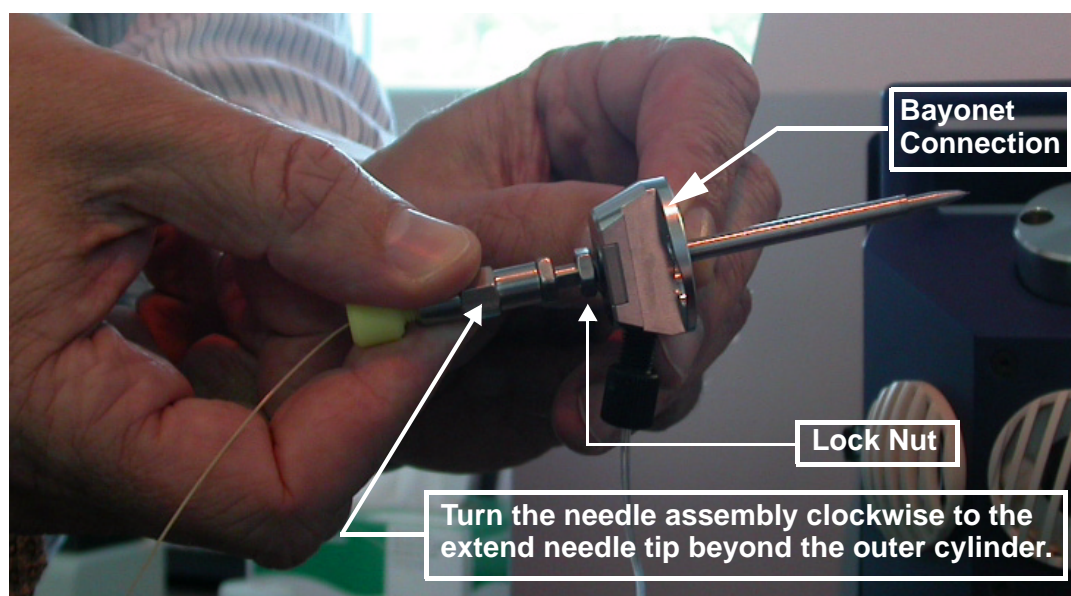

Figure 6-3 Adjusting the Electrospray Needle
1. Loosen the lock nut shown in Figure 6-3.